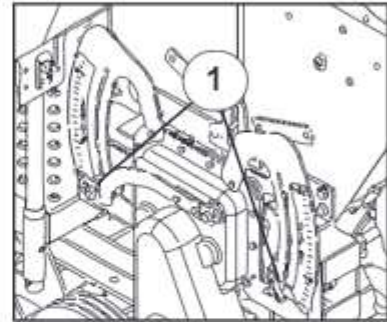

Fig 6
To set the seed rate at the gearbox, slacken the tri knob (1) by turning counter-clockwise and push from below into the position indicated in the Sowing Chart. Retighten the star knob firmly (Fig 6).
Using the stepless variable speed gearbox, the speed of the metering shaft and thus the seed rate is set steplessly. The higher the figure indicated on the scale by the setting lever the greater the seed rate (Fig 6).